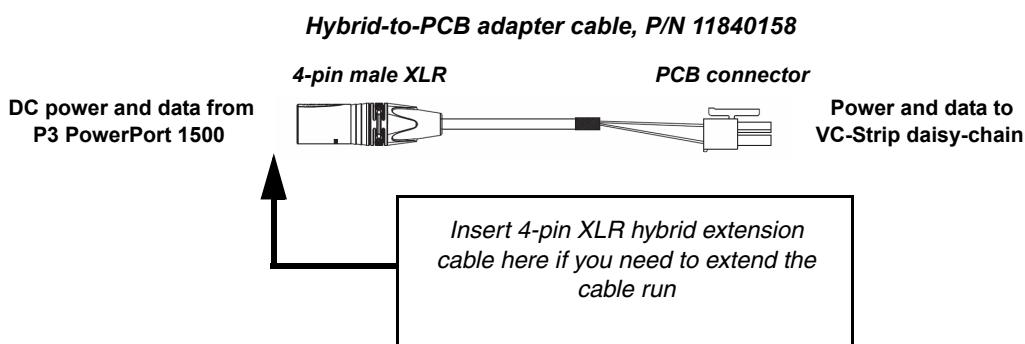

Figure 4: Power and P3 video data input
- Warning!** Each daisy-chain that is connected to a Martin P3 PowerPort 1500™ may contain up to a maximum of forty-five (45) VC-Strip 16x1 modules or sixty-three (63) VC-Strip 8x1 modules. See Table 1 on page 9.
4. Connect each daisy-chain of VC-Strips to one of the four 4-pin female XLR hybrid (48 VDC power + P3 data) outputs on a P3 PowerPort 1500™ using a Martin™ hybrid 4-pin male XLR to PCB adapter cable, P/N 11840158 (see Figure 4).